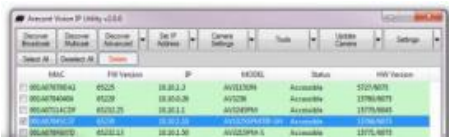
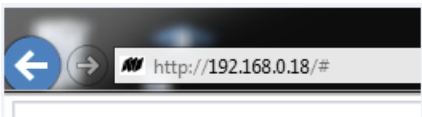

Figure 1: Double click via AV IP Utility
Figure 2: Type the camera IP address
1. To control the remote focus via the web interface, double click the camera within the AV IP Utility (Figure 1) or open your preferred web browser and type the camera's IP address (Fig 2).